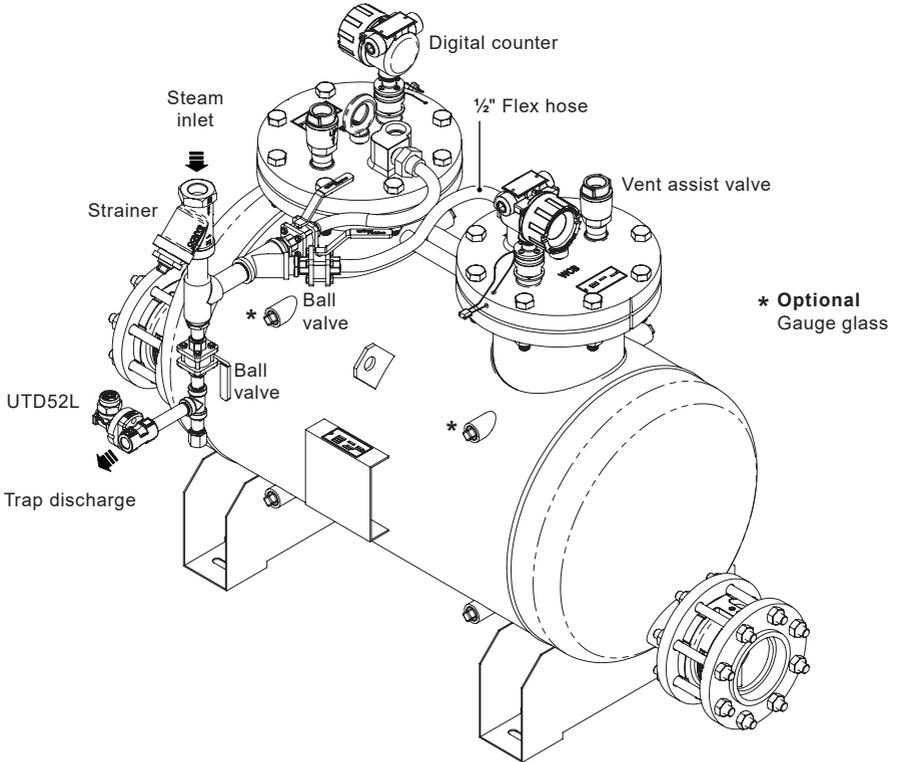

Fig. 5 Recommended steam inlet piping hook-up
At a minimum, when using steam, the inlet piping should be at least 50 mm (2") NB pipe from the steam header dropping to the pump. Only when the steam (motive) inlet pipework is close to 0.6 m (2 ft) to the pump should the motive line piping be reduced and split equal into two separate lines. These should be of equal diameter and length to be fed into each mechanism's motive inlet. This will ensure steam (air or motive gas) is supplied uniformly to each of the PTF4 pump mechanisms and will provide synchronous operation of both - See Figures 5, 6 and 7.
- b) Check the condensate inlet pressure and static backpressure at the pump discharge. If the inlet pressure equals or exceeds the static backpressure, a 'blow through' problem is suspected. On vented systems, check for leaking traps discharging into the condensate inlet line which would increase inlet line pressure. Replace any faulty traps. On closed loop systems, if condensate inlet pressure can exceed static backpressure under normal operation (i.e. boost in equipment operating pressure via a modulating control valve or significant decrease in static return main pressure), a pump-trap combination is required. The pump-trap combination will prevent passage of steam into the return main and allow the pump to cycle normally when condensate is present - See Figures 5, 6 and 7.